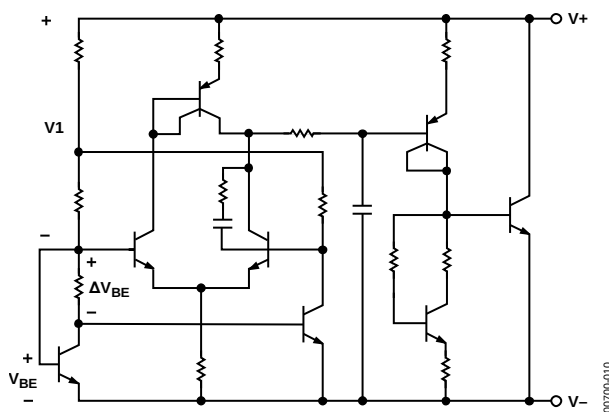

Figure 10. Schematic Diagram
The AD1580 uses the band gap concept to produce a stable, low temperature coefficient voltage reference suitable for high accuracy data acquisition components and systems. The device makes use of the underlying physical nature of a silicon transistor base emitter voltage in the forward biased operating region. All such transistors have an approximately $-2 \text{ mV}/^{\circ}\text{C}$ temperature coefficient (TC), which is unsuitable for use directly as a low TC reference; however, extrapolation of the temperature characteristic of any one of these devices to absolute zero (with collector current proportional to absolute temperature) reveals that its V_{BE} goes to approximately the silicon band gap voltage. Thus, if a voltage could be developed with an opposing temperature coefficient to sum with V_{BE} , a zero TC reference would result. The AD1580 circuit in Figure 10 provides such a compensating voltage, V_1 , by driving two transistors at different current densities and amplifying the resultant V_{BE} difference (ΔV_{BE} , which has a positive TC). The sum of V_{BE} and V_1 provides a stable voltage reference.